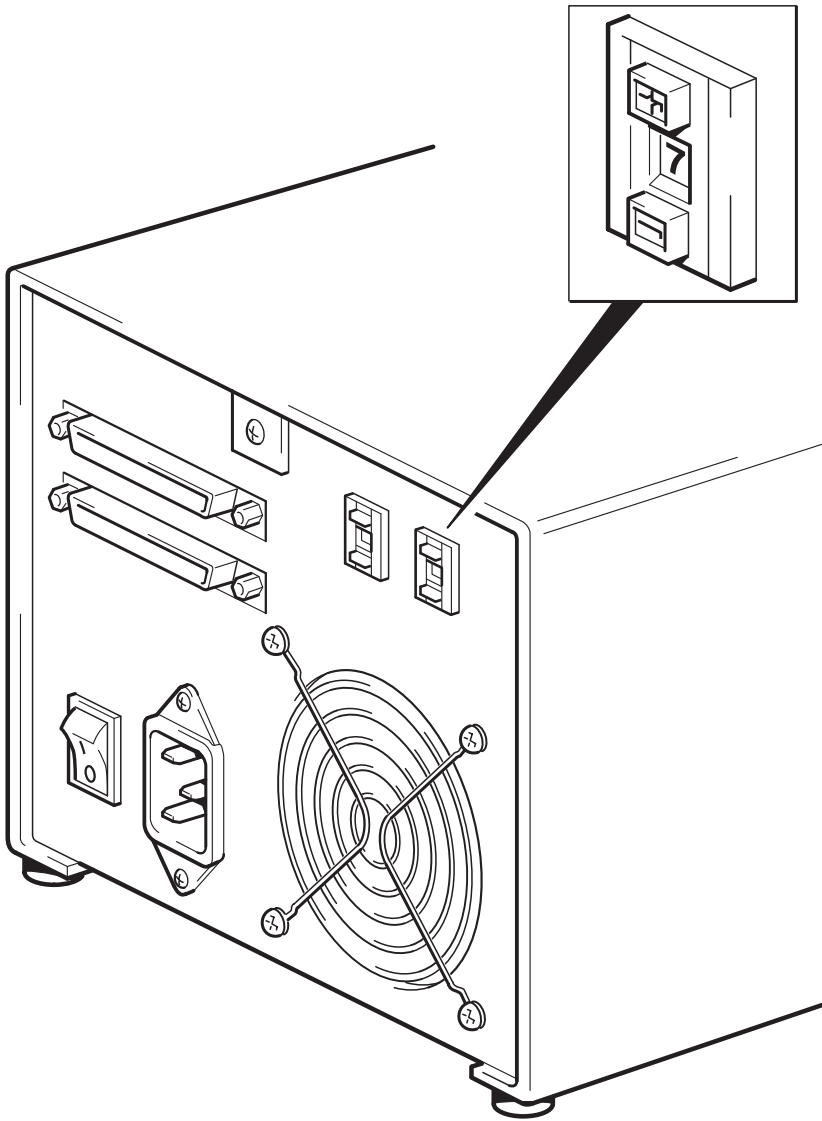

Figure 3: checking the option switch
- 1 Check that the autoloader option switch (right switch) is set to 7 (or 5 for Sun workstations), as shown in figure 3.